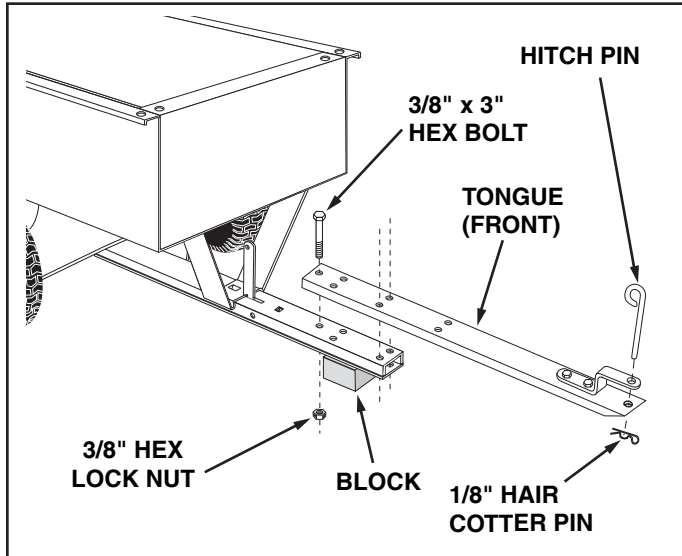

FIGURE 12
20. Assemble the front tongue on top of the rear tongue using three 3/8" x 3" hex bolts and 3/8" hex lock nuts. See figure 12.
21. Assemble the hitch pin to the hitch bracket and tongue, securing it with the 1/8" hair cotter pin. See figure 12.